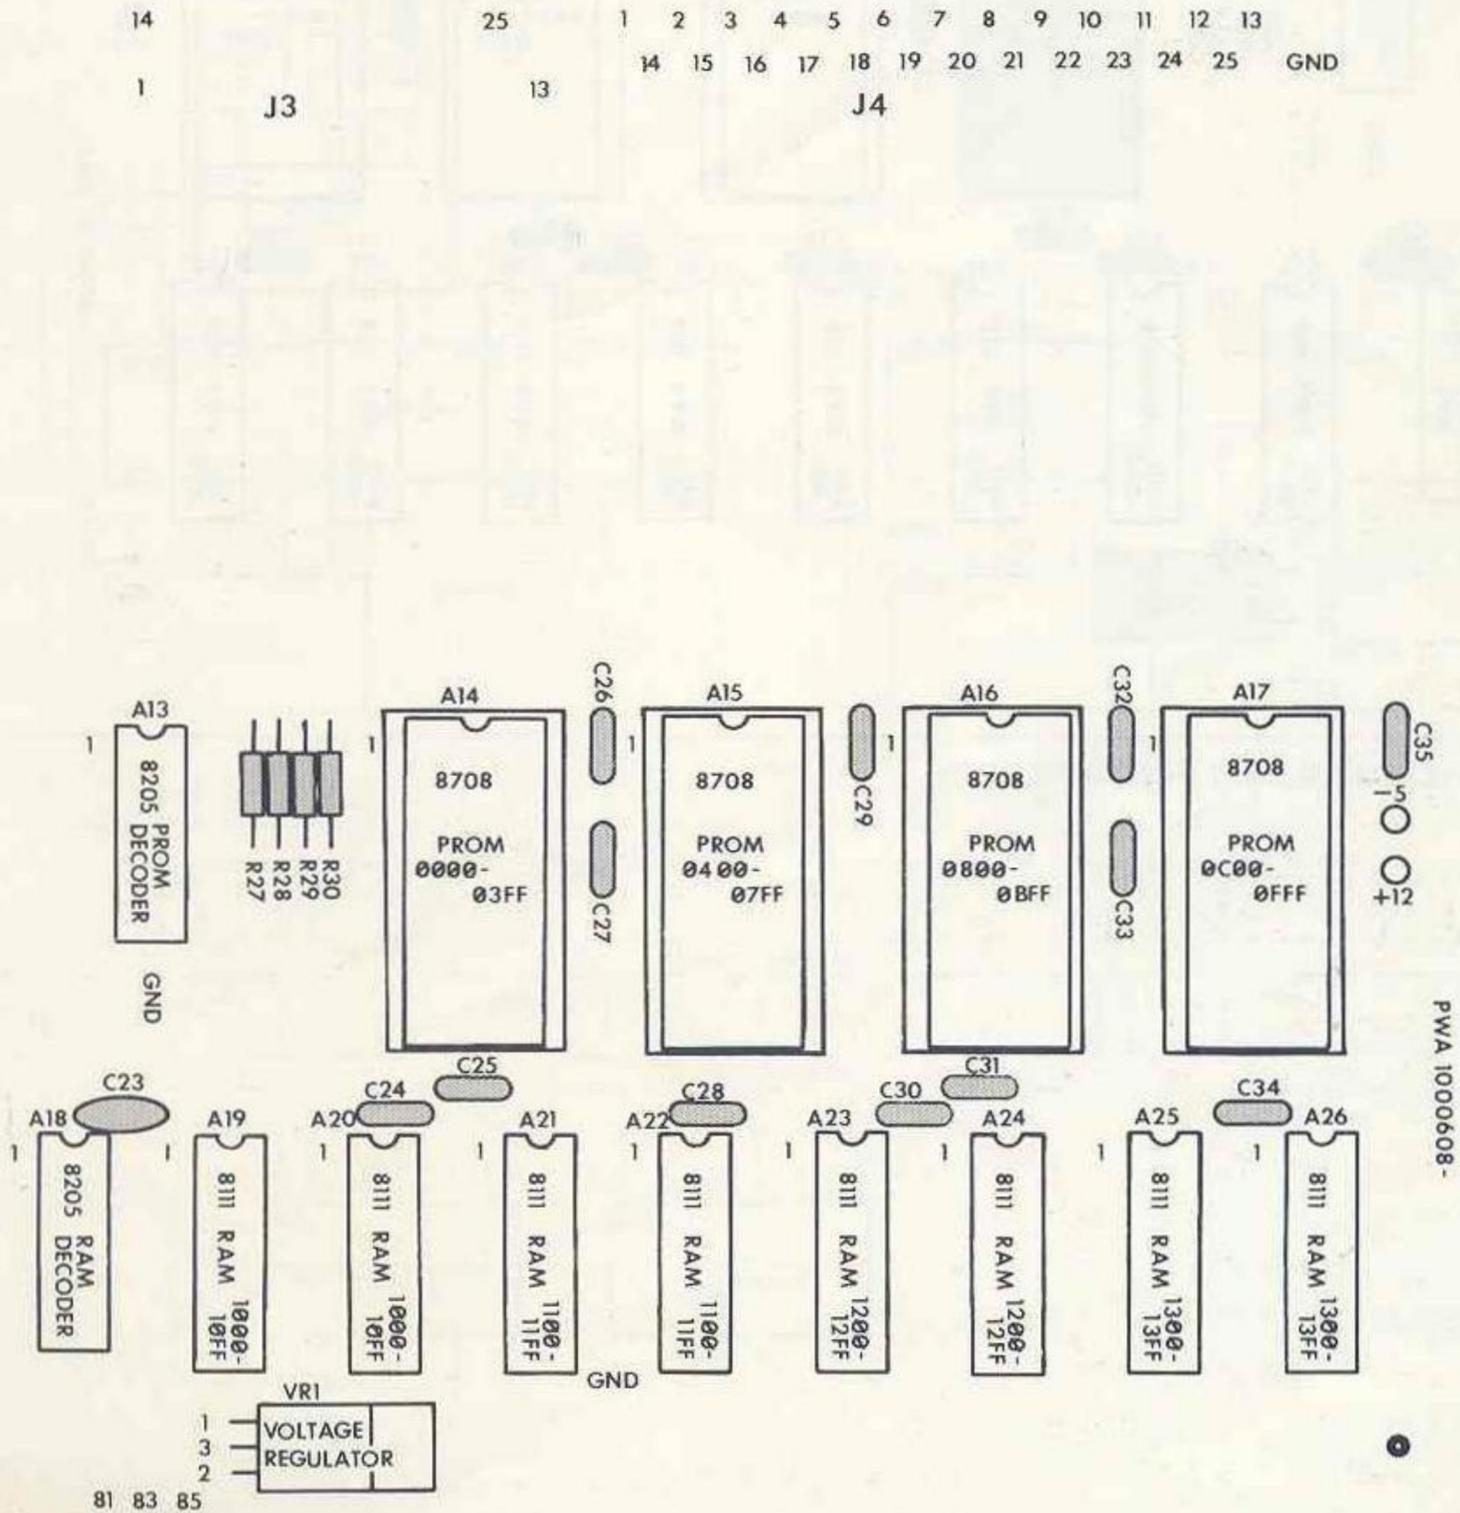

Figure 2-10. Construction Figure #8.
- ☑ Solder capacitors C24-C35 in place. All of these capacitors are 0.1 uf, 50V mono. Figure 2-10 shows the progress made in the last three steps.